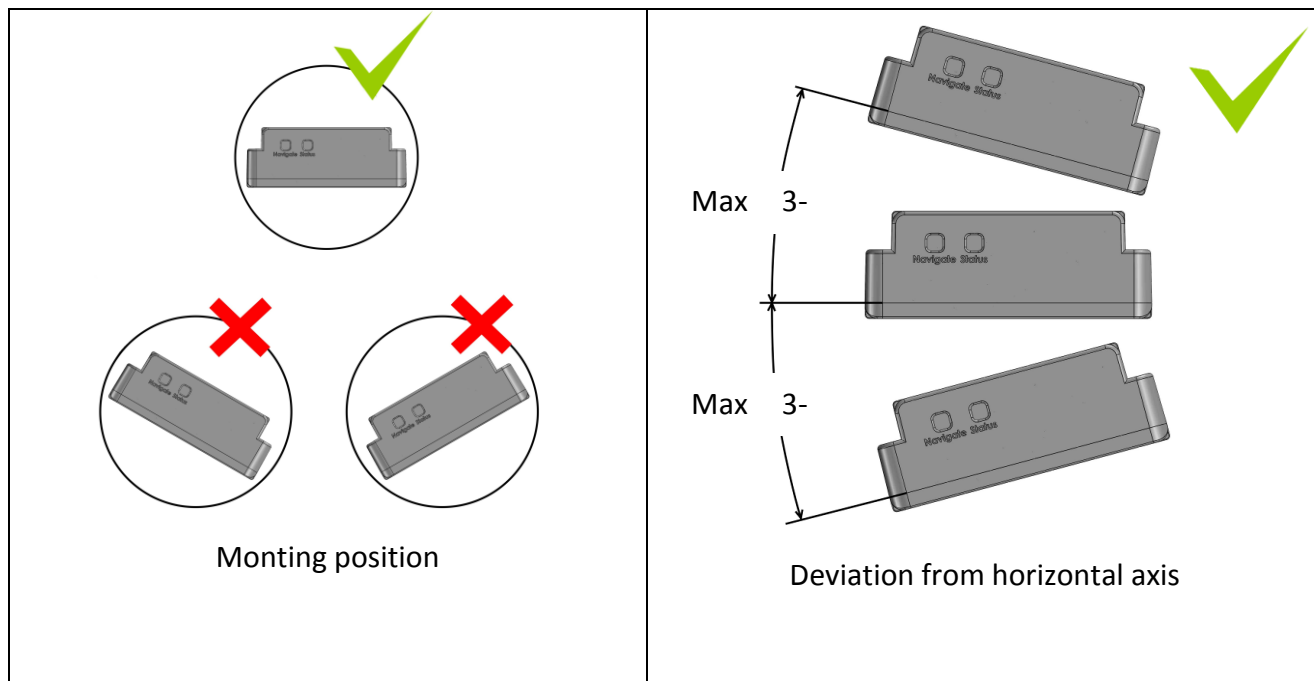

Figure 51. Mounting position and recommended deviation from horizontal axis of vehicle
2. Recommended deviation from horizontal axis of vehicle max 3-5°, as shown in figure 51.
1. If using Eco driving function device should be mounted horizontally to work properly, see Figure 51 and 52.